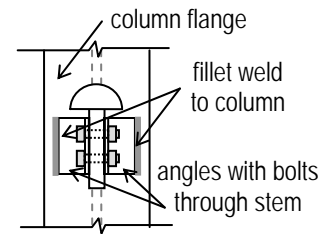

Figure 1d. (elevation)
- The beam end connection is detailed in Figures 1d and 1e. The angle legs are 3/8" thick, with 7/8 in diameter bolts of A325-N and standard holes.